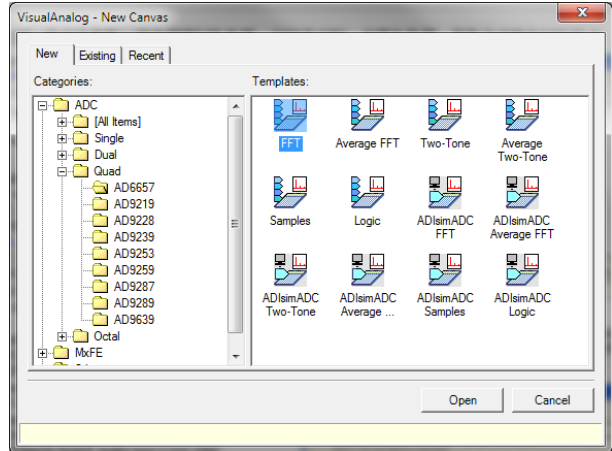

Figure 4. VisualAnalog - New Canvas Window
1. Open VisualAnalog on the connected PC. The appropriate part type should be listed in the status bar of the **VisualAnalog – New Canvas** window. Select the template that corresponds to the type of testing to be performed (see Figure 4 where the AD6657 is shown as an example).